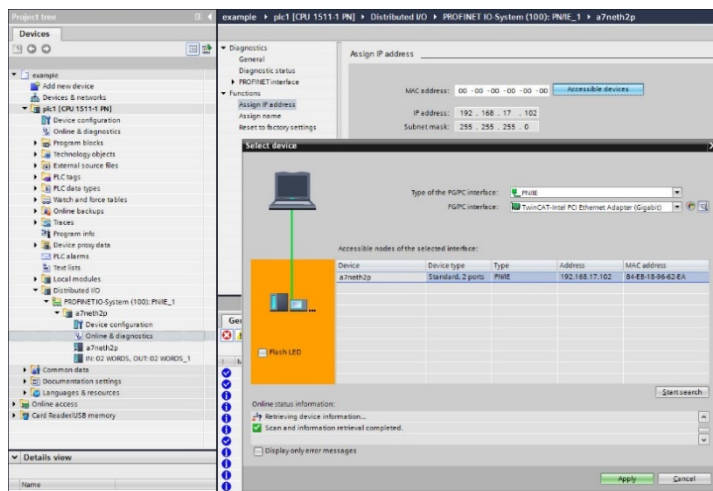

Figure 88: Discover PROFINET Devices on the Network
In the **Project tree**, expand **plc1...Distributed I/O...PROFINET IO-System (100):PN/IE_1**. Expand the device and double-click **Online & diagnostics**. In the next panel, expand **Functions** and select the **Assign IP address** node. Click the **Accessible devices** button. Select the appropriate **PG/PC interface** and click the **Start search** button to discover and display the PROFINET devices on the network as shown in Figure 88. Select the device and click the **Apply** button.